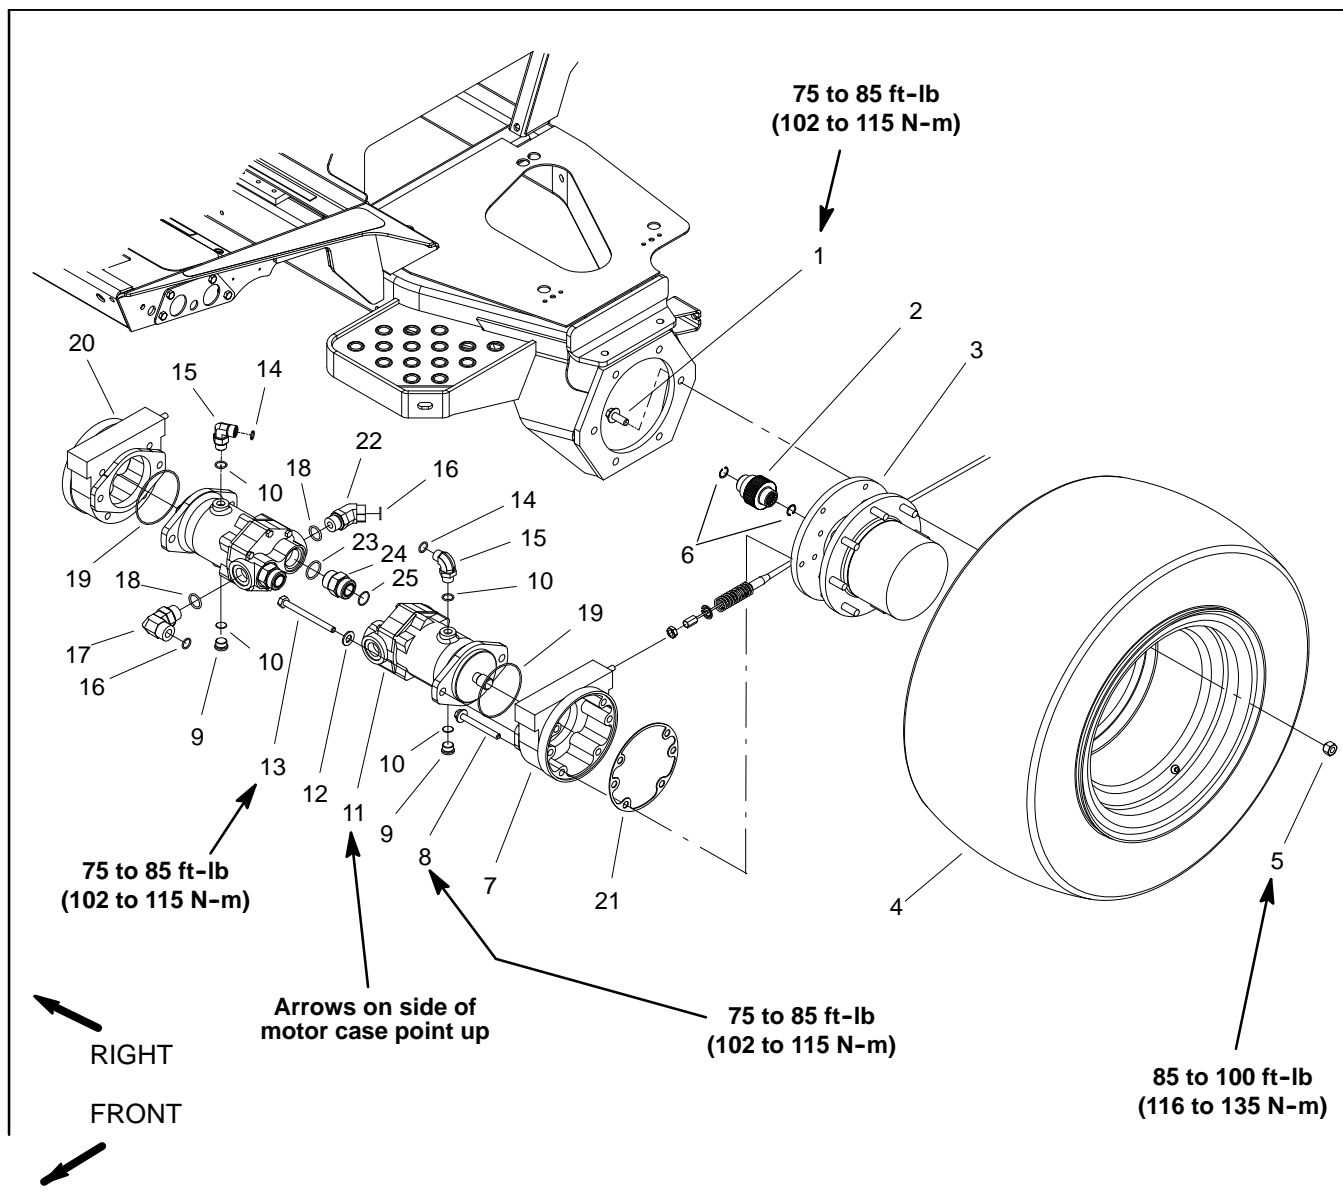

Figure 65
Removal (Fig. 65)
6. Remove wheel motor using Figure 65 as a guide.
Installation (Fig. 65)